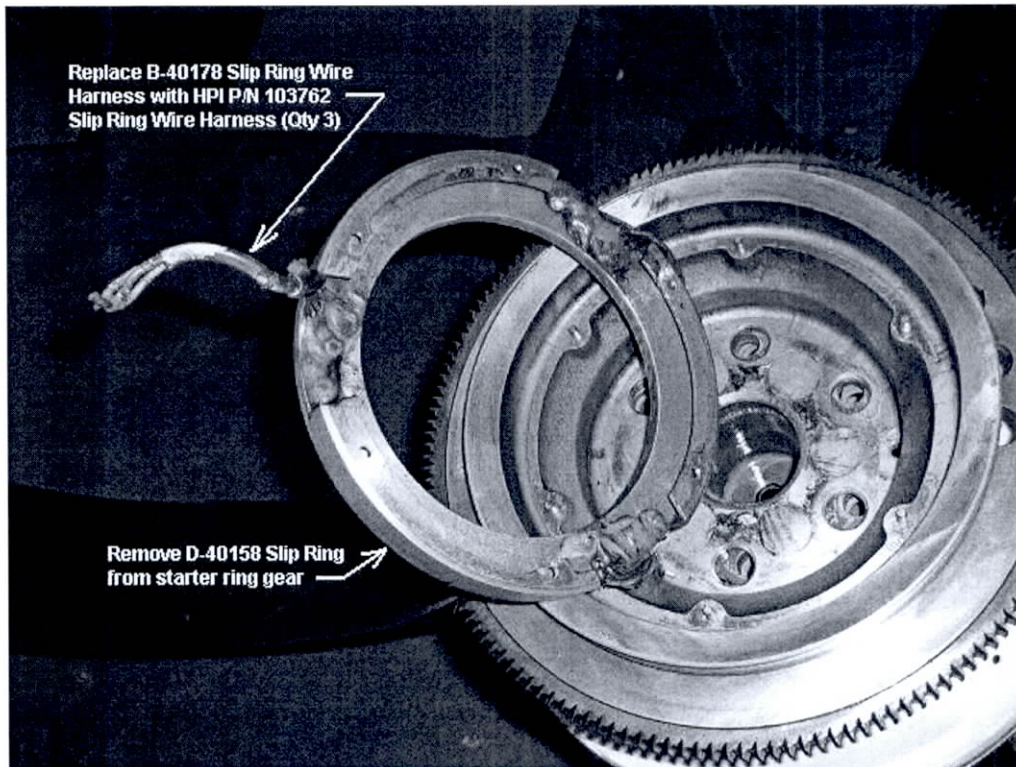

FIGURE 1
2. Remove the D-40158 slip ring from the starter ring gear in accordance with Cessna aircraft maintenance manual(s). Remove (3) B-40178 slip ring wire harness leads and replace with (3) Hartzell P/N 103762 slip ring wire harness leads per Cessna maintenance manuals and Figures 1 through 3.